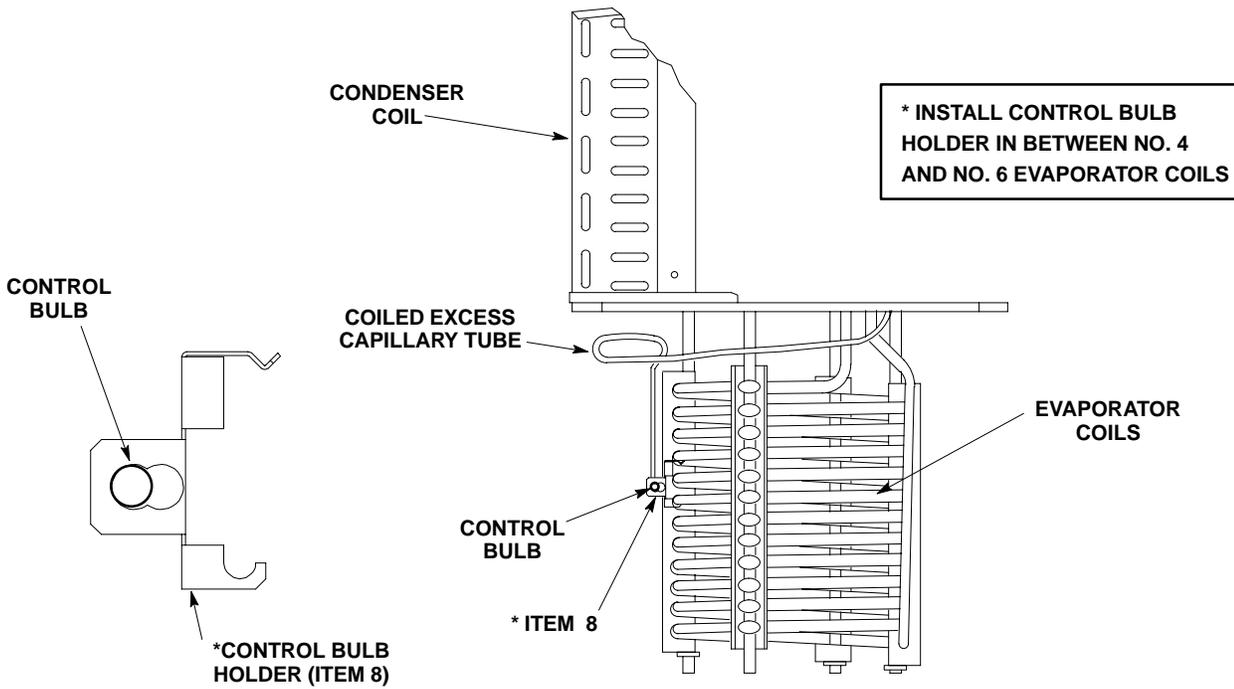

FIGURE 1. CONTROL BULB HOLDER INSTALLATION
1. Place the new ICE BANK CONTROL (item 6) inside the electrical control box temporarily to establish it's new location.
2. Using ice bank control MOUNTING TEMPLATE (item 9), drill two new holes in electrical control box where new ice bank control will be installed.
6. Coil excess capillary tube up next to underside of the drop-in refrigeration assembly platform as shown in Figure 1).
7. Install new ICE BANK CONTROL HOLDER (item 8) on drop-in refrigeration assembly evaporator coils as shown in Figure 1.
8. Slide O-RING (item 1) up on the ice bank control capillary tube control bulb.
9. Place capillary tube control bulb in outer hole (furtherest from the evaporator coils) of the control bulb holder (see Figure 1).
10. Slide other O-RING (item 1) up on the capillary tube control bulb to secure control bulb to the control bulb holder.